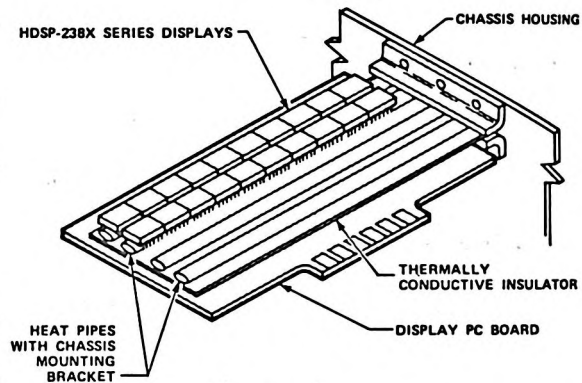

Figure 9b. Heat Pipes Mounted Between Display Devices and PC Board, Mechanically Fastened to Chassis Housing.
3. Install a heat pipe between the display packages and the PC board, with the heat pipe mechanically fastened to the chassis housing, as shown in Figure 9b.